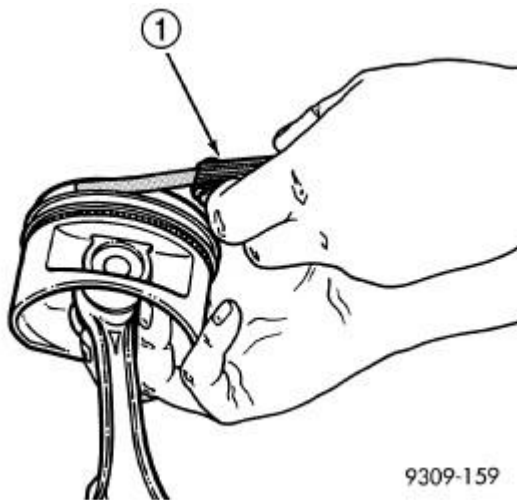

Fig. 353: Measuring Piston Ring Side Clearance
2. Check piston ring to groove clearance: Refer to **Fig. 353**. For clearance specifications refer to **Engine - Specifications**.